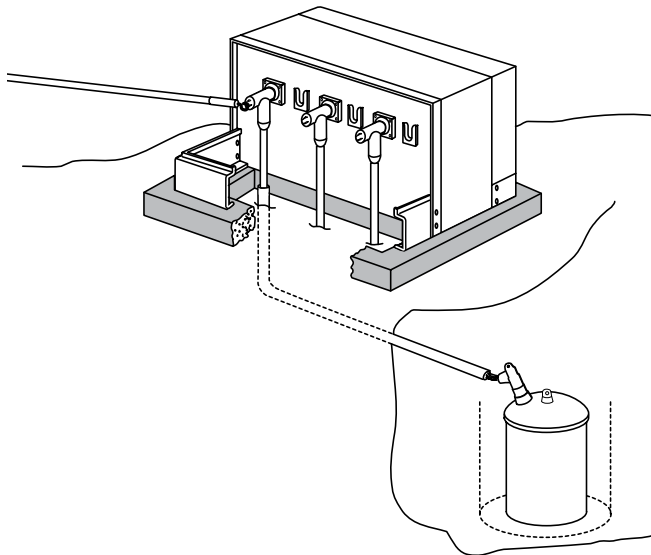

Figure 9. De-energize transformer from remote location.
- It is recommended that the transformer be de-energized from a remote location. (See Figure 9.) This is especially true when the transformer is located in a vault, room or in a position requiring the operator to operate the Bay-O-Net while standing directly over the transformer. If the transformer has a pressure relief valve, use a hotstick to relieve the tank pressure. (Refer to Step 1 on page 3.)